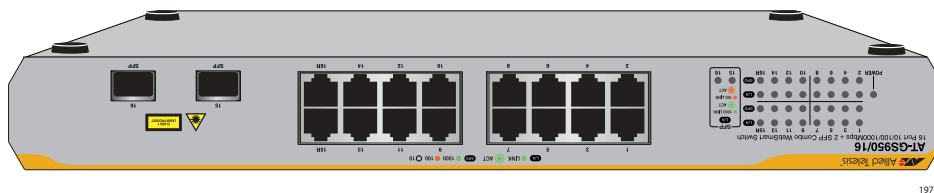
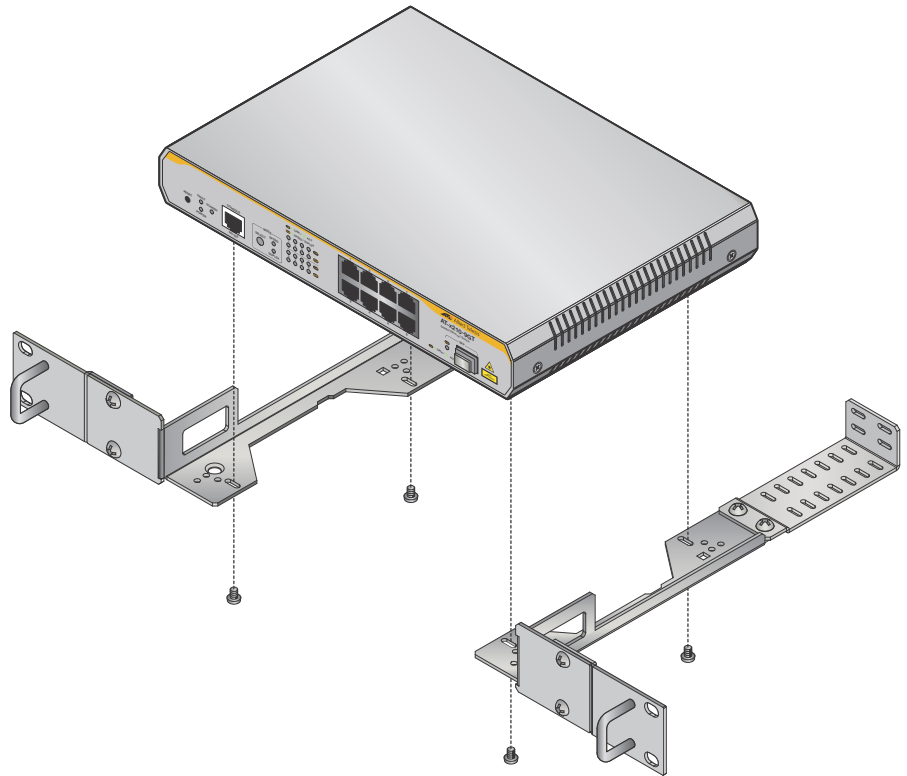

Figure 15. Turning the Switch Upside Down
Figure 24. Mounting an AT-x210-9GT Switch in an Equipment Rack
10. Mount an AT-x210-9GT switch in a 19-inch equipment rack, as shown below in Figure 24, using the screws from the rubber feet after removing these screws, as shown earlier in Figure 15.